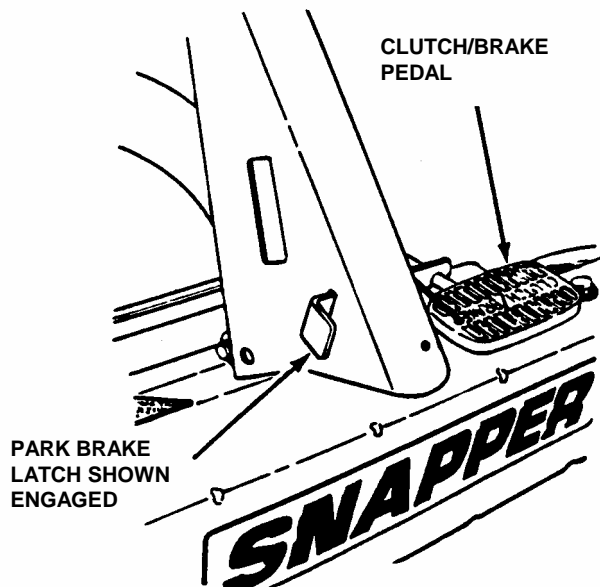

FIGURE 2.16
1. Engage park brake by pushing clutch/brake pedal "DOWN" and moving the park brake latch over to the "ENGAGED" position. While holding the park brake latch "ENGAGED", release clutch/brake pedal to set park brake. See Figure 2.16.